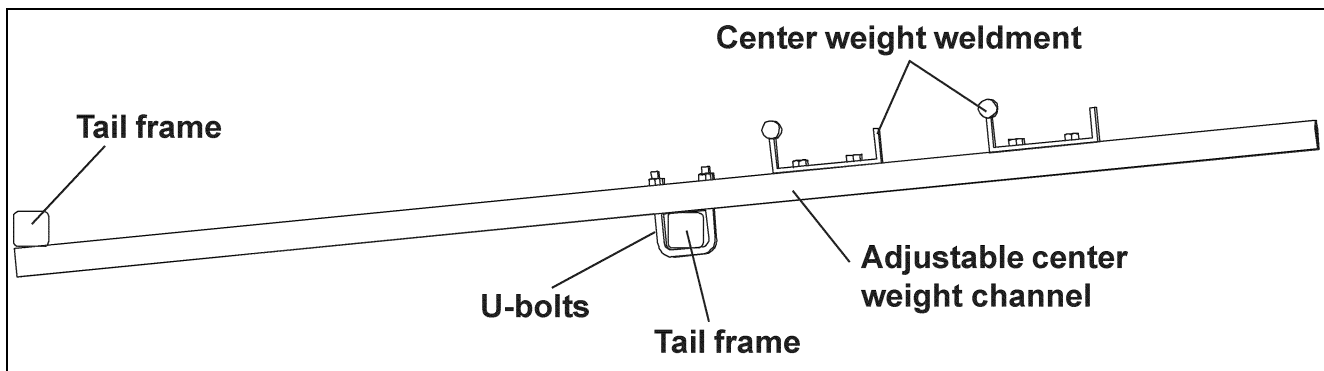

Figure 5U
- C. Place assembly on top of the back tail section, around the tires. The end of the adjustable center weight should be placed under the tail frame. (See Figure 5U)